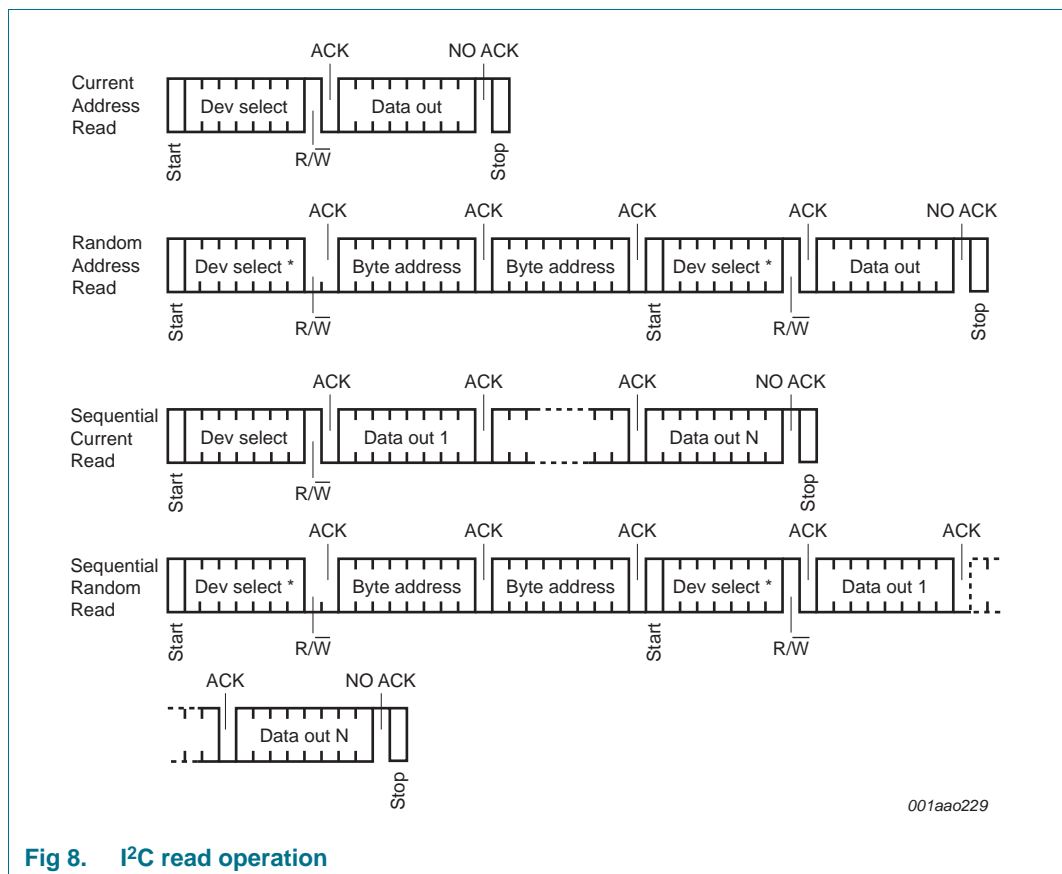

Fig 8. I²C read operation
A dummy Write is first performed to load the address into this address counter (as shown in Figure 8) but without sending a Stop condition. Then, the bus master sends another Start condition, and repeats the device select code, with the Read/Write bit (RW) set to 1. The UCODE I²C acknowledges this, and outputs the contents of the addressed byte. The bus master must not acknowledge the byte, and terminates the transfer with a Stop condition.
For the Current Address Read operation, following a Start condition, the bus master only sends a UCODE I²C select code with the Read/Write bit (RW) set to 1. The UCODE I²C acknowledges this, and outputs the byte addressed by the internal address counter. The counter is then incremented. The bus master terminates the transfer with a Stop condition, as shown in Figure 8, without acknowledging the Byte.
This operation can be used after a Current Address Read or a Random Address Read. The bus master does not acknowledge the data byte output, and sends additional clock pulses so that the UCODE I²C continues to output the next byte in sequence. To terminate the stream of bytes, the bus master must not acknowledge the last byte, and must generate a Stop condition, as shown in Figure 8.